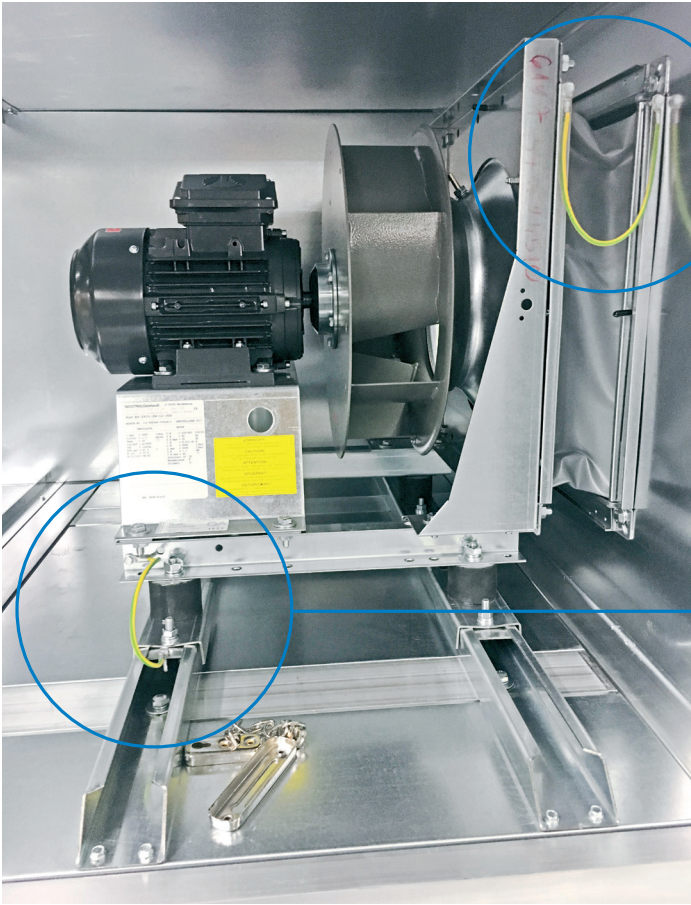

Figure 5
- The electric motor grounding is already prepared in the factory and stated in the wiring diagram (Figures 5, 6, 7).